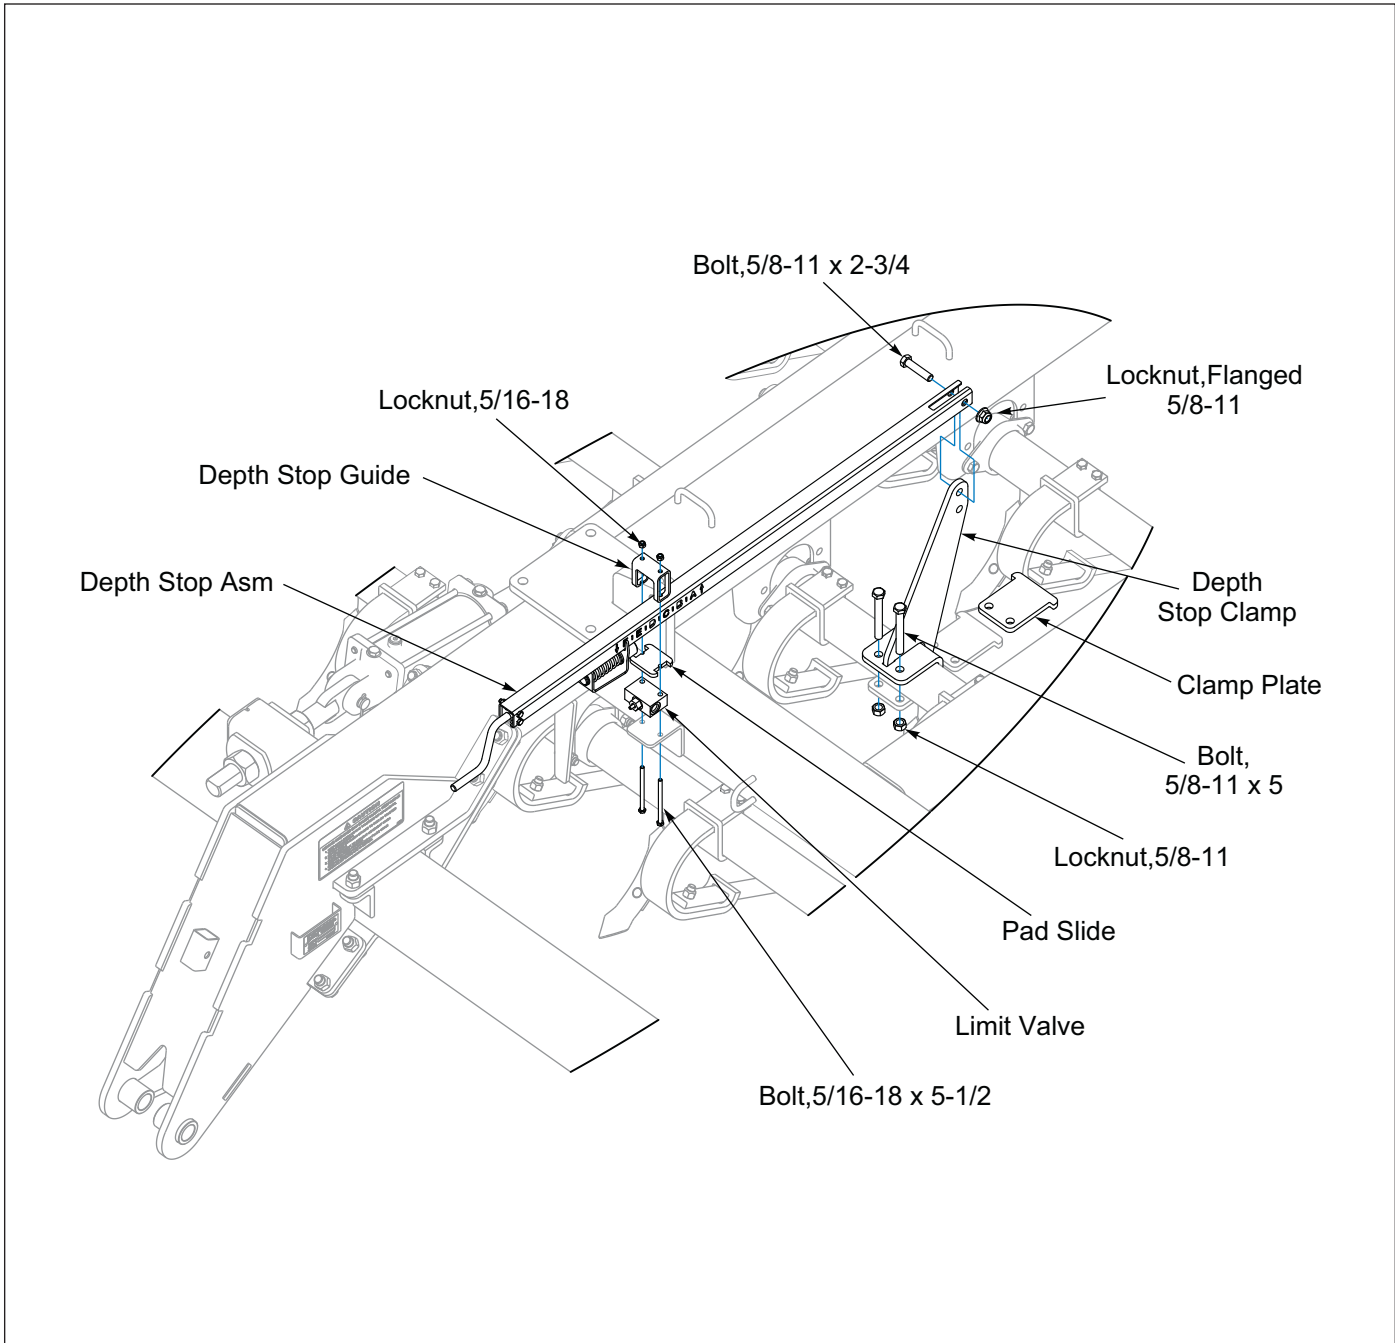

Figure 2-41: Shank Depth Control Installation
1. If not already done, install Limit Valve, Slide Pad and Depth Stop Guide to Limit Valve Mount located at the front of the left side frame cross tube with 5/16-18 x 5-1/2 Bolts and Locknuts. **See Figure 2-41.**